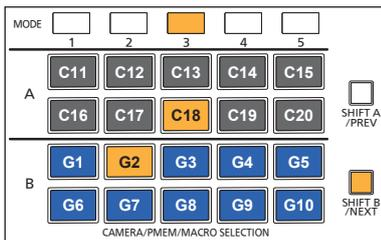

Figure 4
4. Select the G2 preset memory group with the [G2] button, and when you release the [SHIFT B/NEXT] button, the preset memory group is selected. (Figure 4)